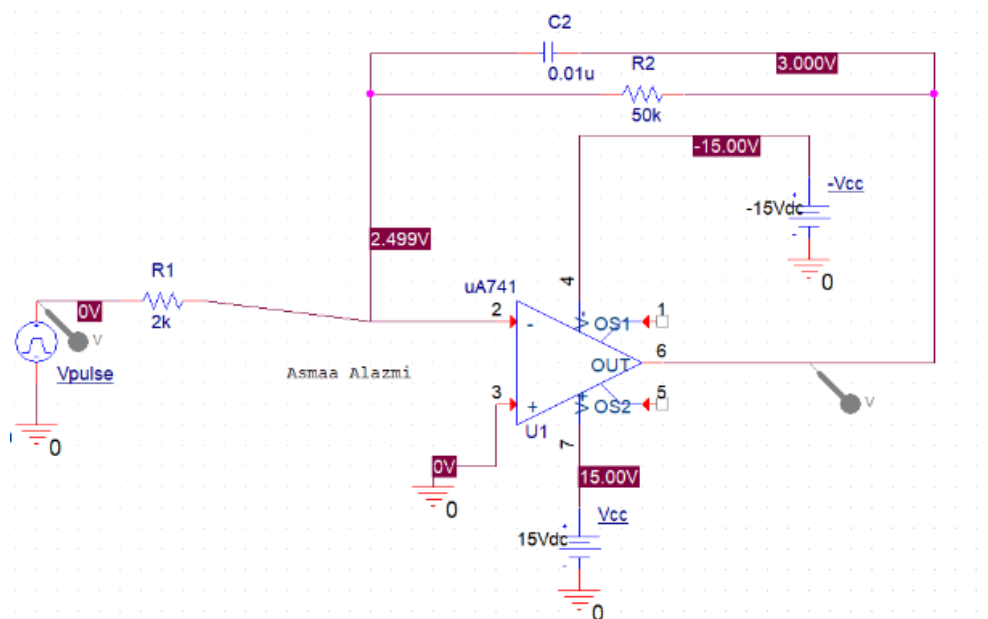

Figure 6 - Op-Amp Integrator Circuit Experiment
7.....	Figure 6 - Op-Amp Integrator Circuit Experiment
- 1- Circuit of Fig.6 was set on the breadboard.